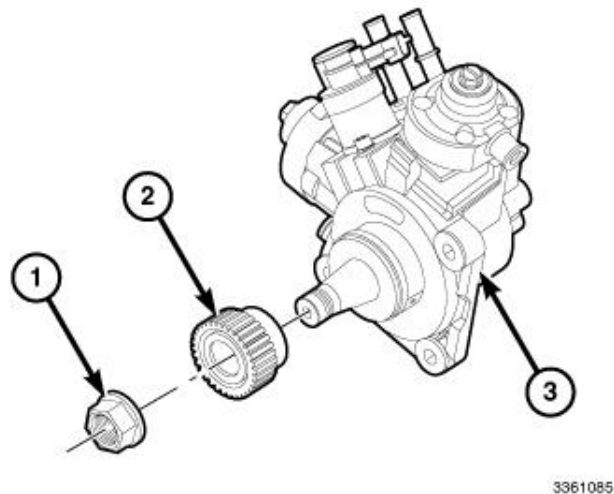

Figure 142 – Gear and Nut
NOTE: The use of Puller 1023 or a commercially available gear puller is required to remove the fuel injection pump gear (2) (Figure 142).
82. Install the gear (2) and nut (1) onto the fuel injection pump (3) and tighten the nut (1) finger tight (Figure 142).